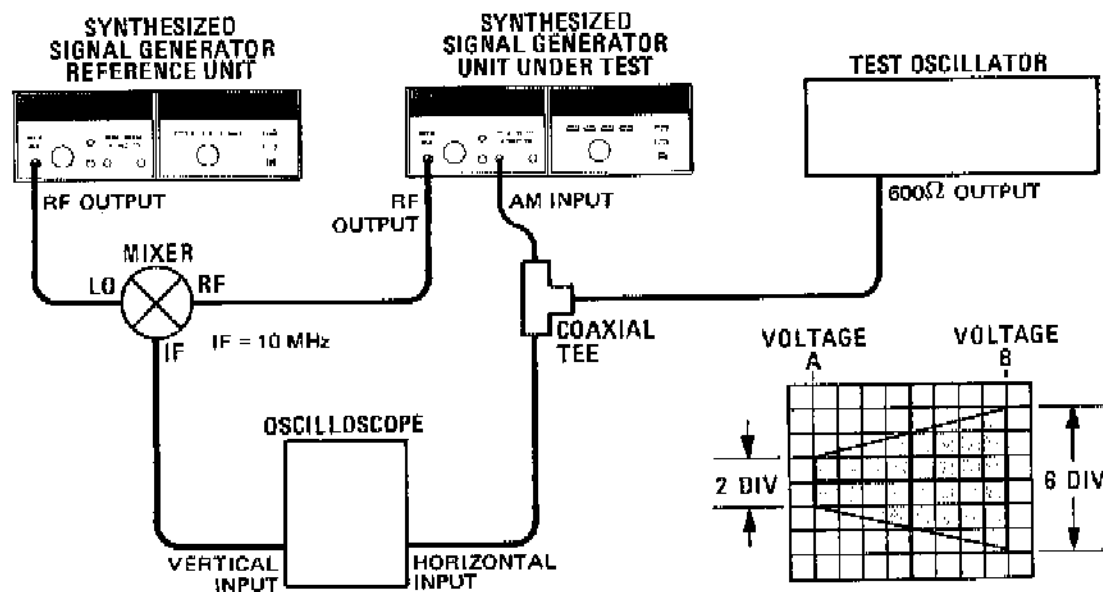

Figure 5-15. AM Meter Adjustment Test Setup
4. Set the oscilloscope's controls to display the trapezoidal modulation signal as shown in Figure 5-15.